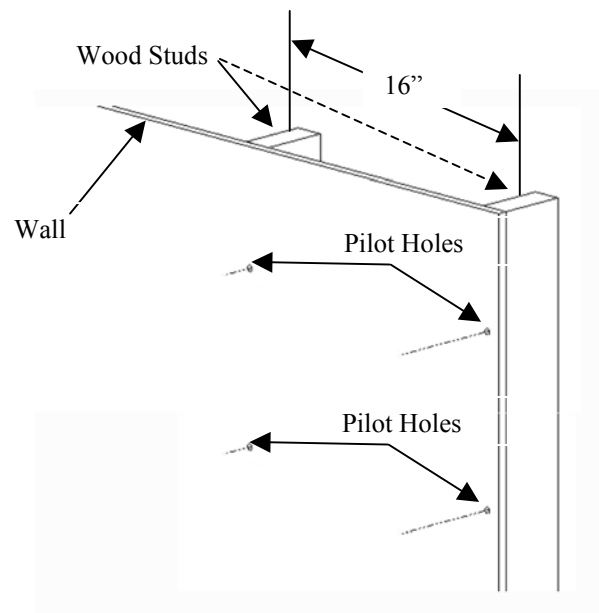

Figure 3. Wood Studs 16" Apart on Center
2. Using a stud sensor, locate the two wood studs where you will install the mount between two wood studs that are 16" apart on center (see Figure 3).